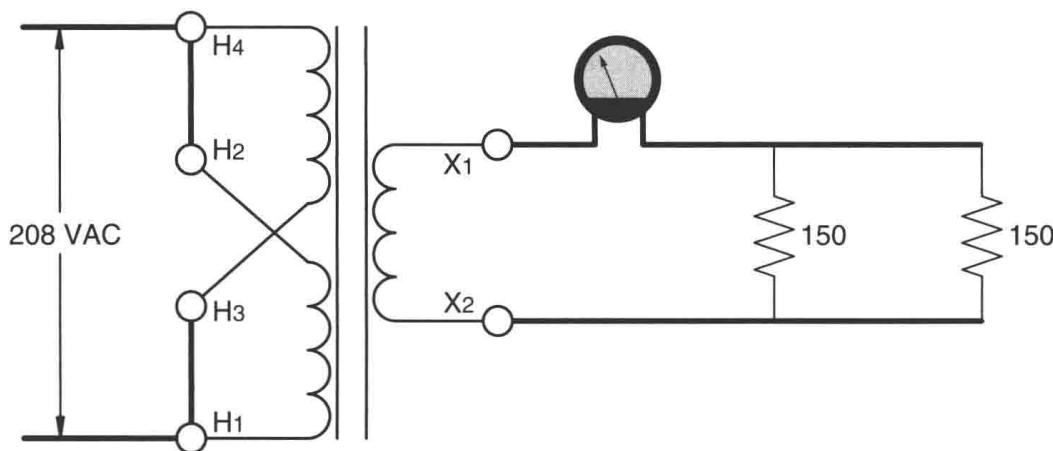

Figure 20-2 Two resistors are connected in parallel to the secondary winding.
7. Connect two 150-ohm resistors in parallel with the low-voltage winding of the transformer. Connect an AC ammeter in series with one of the lines, as shown in Figure 20-2.